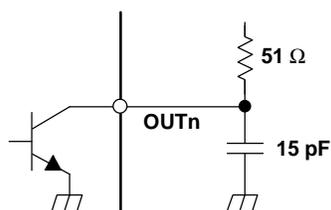
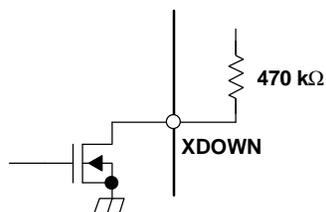

Figure 5. Test Circuit for t_{r1} , t_{f1} , t_{pd2} , t_{pd3} , t_{pd5} , t_{pd6}
Figure 6. Test Circuit for t_{pd4}
- (2) See Figure 5. Defined as from 10% to 90%
- (4) See Figure 5 and Figure 11
- (5) See Figure 5, Figure 6, and Figure 11
- (6) See Figure 5